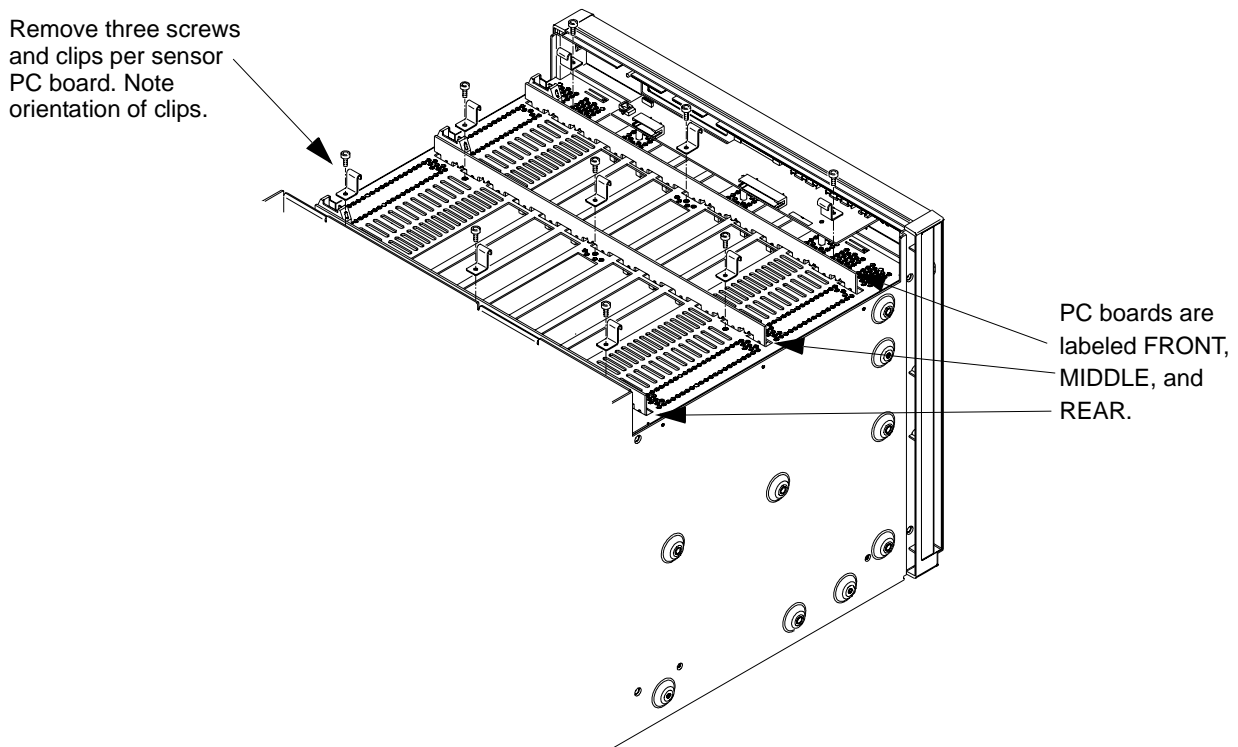

Figure 5-3. Removing / Replacing the Enhanced Monitor PC Boards
4. Refer to Figure 5-3. To replace the temperature sensor boards (all three should be replaced together), remove the old boards. Carefully break-apart the new sensor PC boards. Look carefully at the three new PC boards; each one is labeled as either FRONT, MIDDLE, or REAR. Make certain you place the sensor boards in the correct positions.
5. Refer to Figure 5-3. To replace the Enhanced Monitor display board, remove the screws holding the PC board and the nuts holding the Diagnostic Connector to the front panel. Remove all ribbon cable.